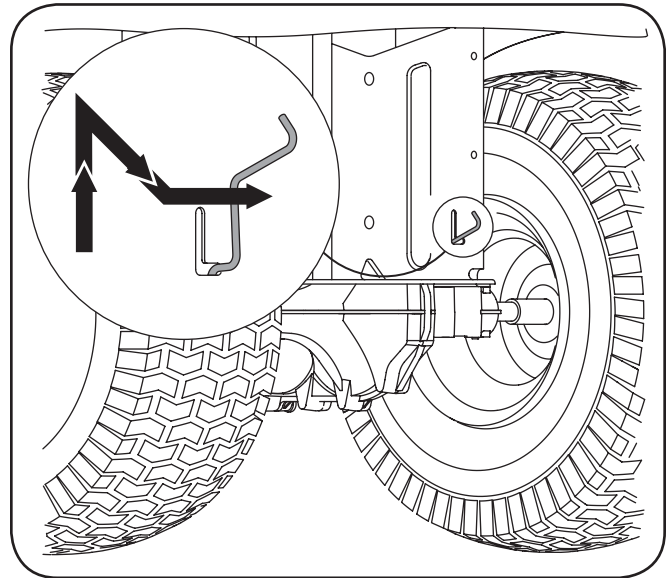

Figure 5-3
1. Locate the hydrostatic bypass rod in the rear of the tractor. See Fig. 5-3.